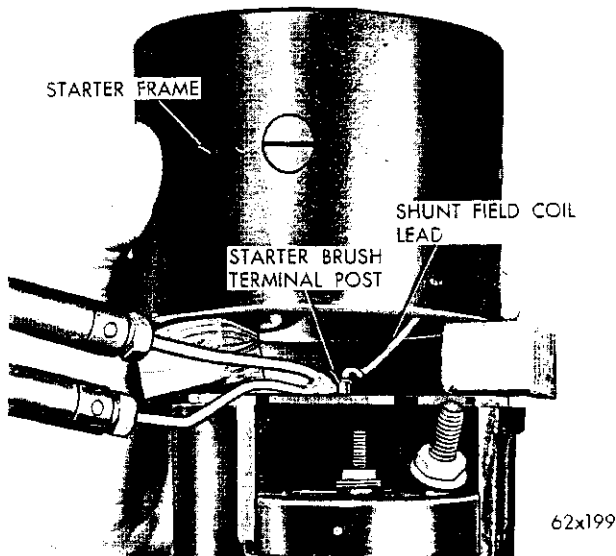

Fig. 21—Unsoldering the Shunt Coil Lead Wire
(5) Unsolder the shunt field coil lead from the starter brush terminal (Fig. 21).